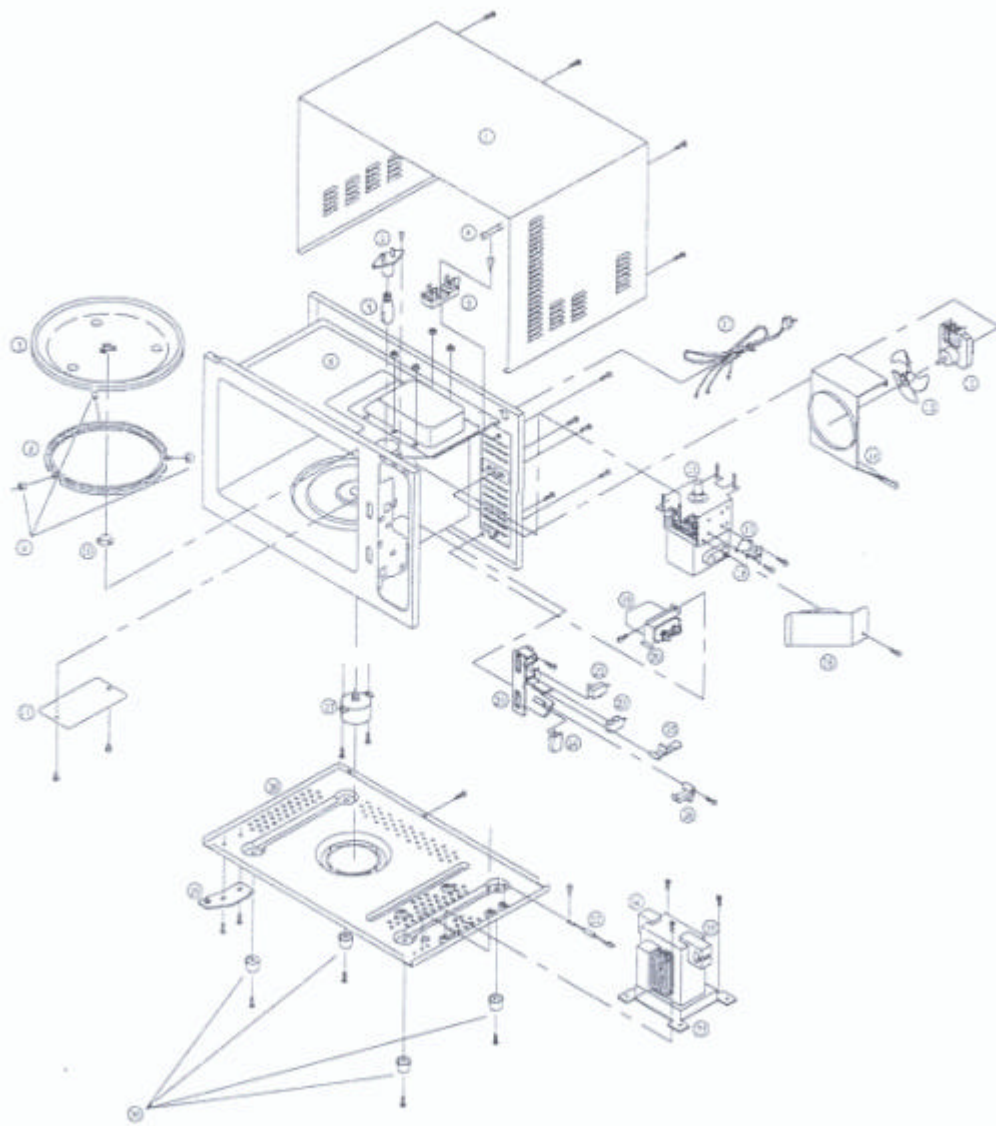

Fig. 14.1 OVEN-MAIN ASSEMBLY
(1) OVEN-MAIN ASSEMBLY (Fig. 14.1)